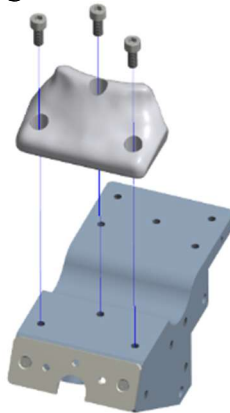

Figure 8-25. Remove the Coccyx (474-4546) from the bottom of the Center Pelvic Bone (474-4541)
- 8.2.22 Remove the Coccyx (474-4546) from the bottom of the Center Pelvic Bone (474-4541) by removing three M5 X 0.8 X 12 LG. SHCS (Figure 8-25).